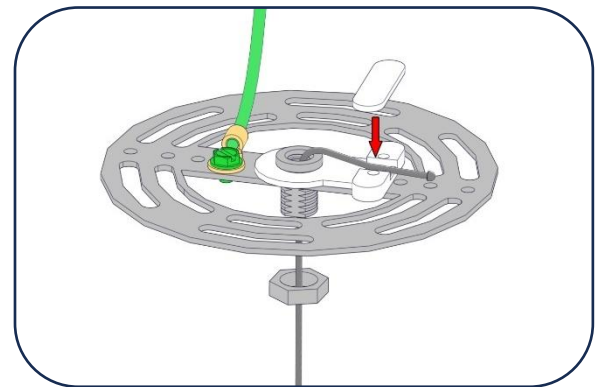

Figure 10
21. Assemble a **Mounting Bracket** and **Aircraft Cable Grip** with one of the Threaded Inserts removed in the step 19. Secure the end of the Aircraft Cable with the Aircraft Cable Grip. [Figure 10]